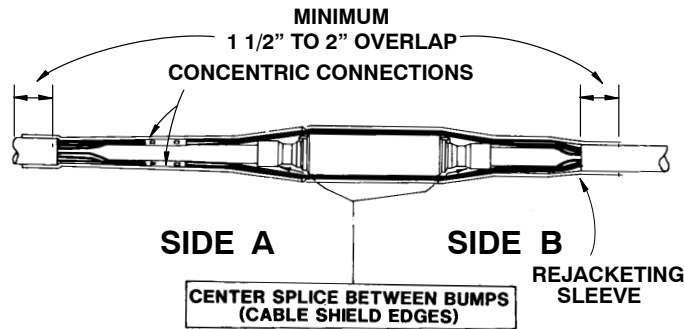

FIGURE 3
10. Lubricate insulation and semi-con shield of Cable B with silicone grease. Slide splice body onto Cable B and into final position over the connector. Use the bumps formed on the splice ends as guides for centering. See Figure 3.
11. Connect concentrics with two sleeves on Side A. For single phase cables place 5 wires per side into each sleeve. For three phase cables place all 6 wires into one sleeve. Crimp using the "P" or "J" groove of the XPJ Nicopress tool as shown on sleeve. Snug sleeves and wires tightly against splice and cable. See Figure 3.